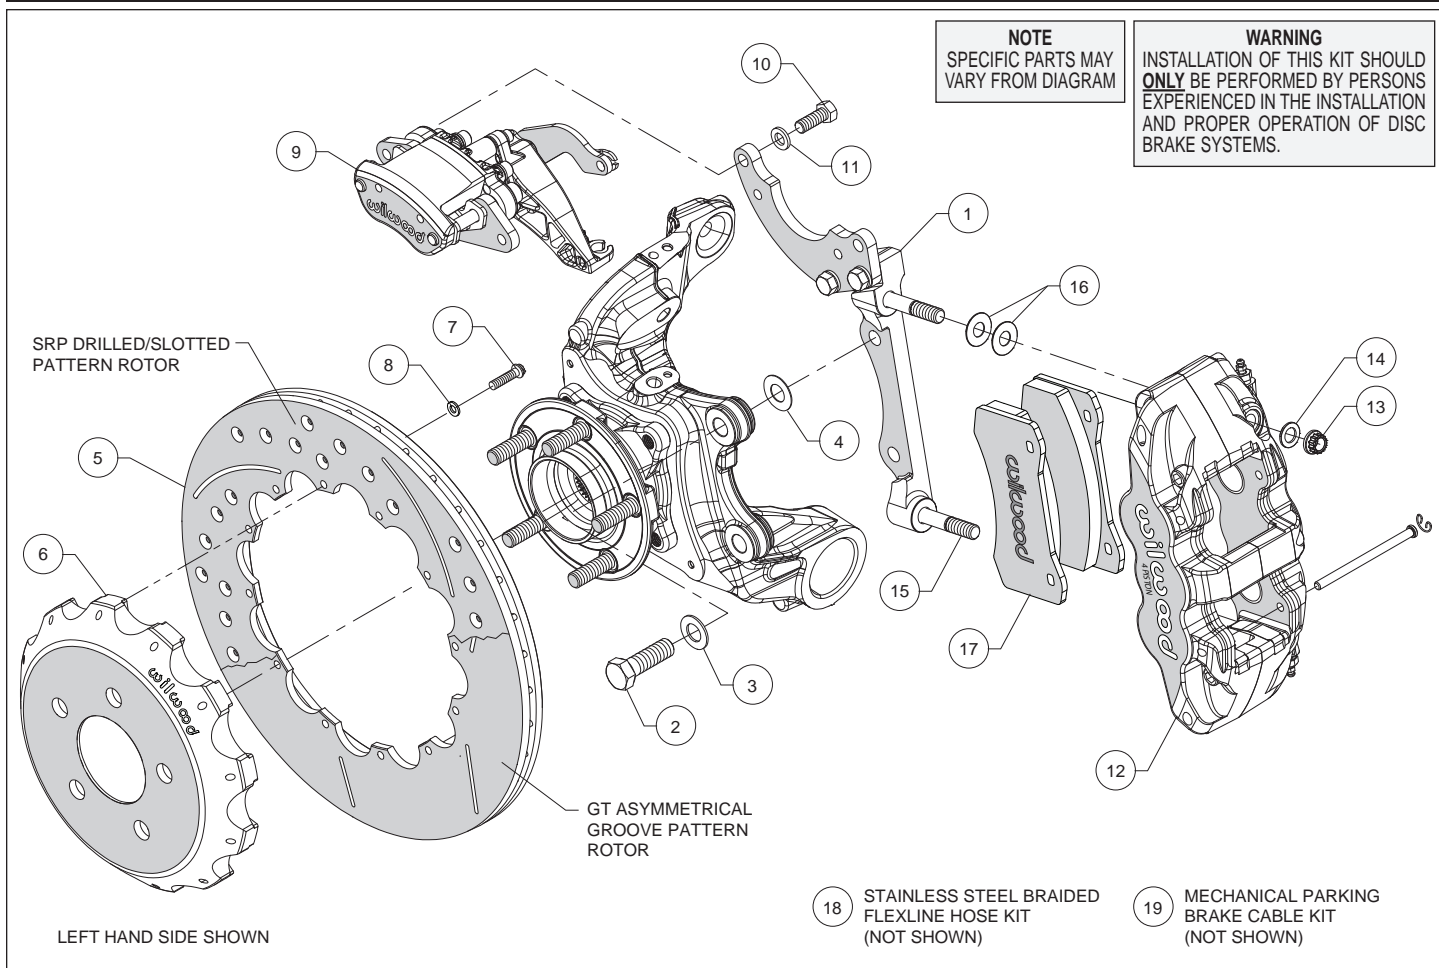
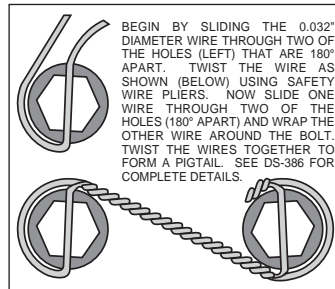

Figure 1. Typical Installation Configuration
Figure 3. Safety Wire Diagram
Assembly Instructions (numbers in parenthesis refer to the parts list and Figure 1 on the preceding pages):
- The caliper mount bracket (1) should initially be installed with clean, dry threads on the mounting bolts. Orient the bracket as shown in Figure 1, and Photo 1, and install using bolts (2) and washers (3). Initially place one .029" thick shim (4) on each bolt between the bracket and upright, Figure 1. Temporarily tighten the mounting bolts. **NOTE: The bracket must fit squarely against the mount bosses on the upright.** Inspect for interference from casting irregularities, machining ridges, burrs, etc. Later, after the caliper alignment has been checked, the mount bolts will be secured using red *Loctite*® 271.
- Orient the rotor (5) and the hat (6) as shown in Figure 1 and Photo 2. Attach rotor to hat using bolts (7) and washers (8). Using an alternating sequence, apply red *Loctite*® 271 to the threads, and torque to 155 **in-lbs**. For an added measure of security, the bolts may be safety wired using standard 0.032 inch diameter stainless steel safety wire as shown in Figure 3. Please refer to Wilwood's data sheet DS-386 for complete safety wire installation instructions.
- Lubricate the caliper mounting studs (15) with lightweight oil. Initially place two .030" thick shims (16) on each stud as shown in Figure 1 and Photo 4. Mount the caliper (12) onto the bracket (1) using lock nuts (13) and washers (14), Figure 1. Temporarily tighten the lock nuts and view the rotor through the top opening of the caliper. The rotor should be centered in the caliper, Photo 5. If not, adjust by adding or subtracting shims (4) between the bracket and the mounting bosses. Always use the same amount of shims on each of the two mounting bolts. Once the caliper alignment is correct, remove the bracket mounting bolts one at a time, apply red *Loctite*® 271 to the threads, and torque to 77 ft-lb.
- Remove the two pad retaining pins from the caliper (12) by carefully popping out the pin retaining clips and sliding out the pins. Insert the brake pads (17) into the caliper from the bottom, Figure 1 and Photo 6. With the friction material facing the rotor, secure the brake pads in place with the pad retaining pins and clips, Photo 7. Reinstall the caliper onto the caliper mounting bracket and temporarily tighten the lock nuts. Check that the top of the brake pad is flush with the outside diameter of the rotor, Photo 8. If not, adjust by adding or subtracting shims (16) between the caliper and the bracket. After the caliper pad height is set, torque the caliper lock nuts (13) to 47 ft-lb.
- Orient the parking brake caliper (9), as shown in Figure 1 and Photo 9, and mount onto the top section of the caliper mounting bracket (1) using bolts (10) and washers (11), Figure 1. **NOTE: For this kit, the parking brake caliper marked 'right hand'**